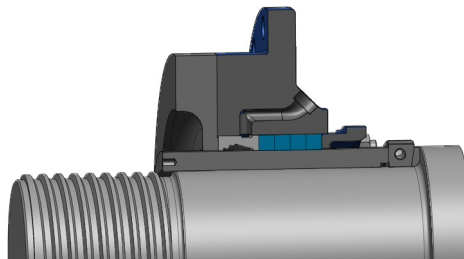

Figure 9-2: Throat Bushing with SpiralTrac™
- **SpiralTrac™ Option:** (Figure 9-2.) With SpiralTrac™ technology, available with the throat bushing design, flow rates can be reduced by more than 50% (compared to throat bushing without SpiralTrac™) while still maintaining acceptable packing life and shaft sleeve wear.